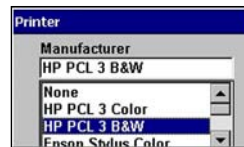

Figure 5-20 Sample print option menu
2. Select from the drop-down lists as necessary (Figure 5-20).